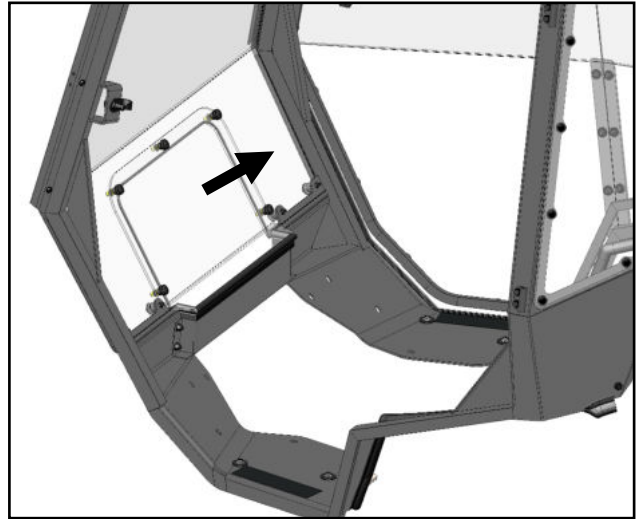

Fig. 11.1 (Attach Gas Shock)
- 11.1 See fig. 11.1. Re-install doors and install gas shocks. The end with the red tab should be attached to the side frame of the vehicle.